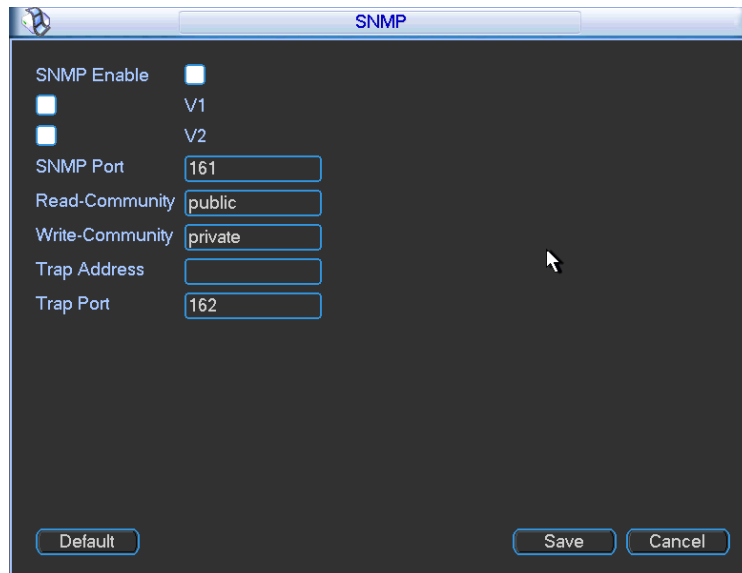

Figure 5-30
You can set in the following interface. See Figure 5-30.
- In Figure 5-30, check the box to enable the SNMP function. Input the IP address of the PC than is running the software in the Trap address. You can use default setup for the rest items.